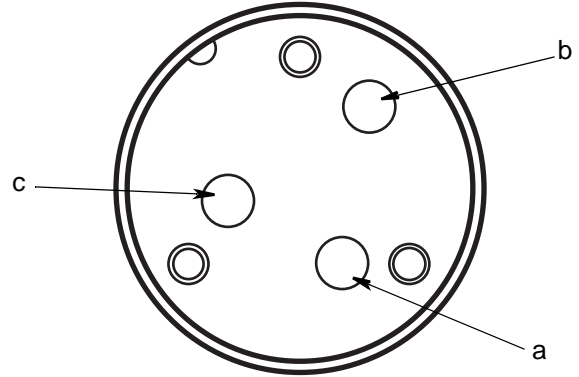

FIG. 27: Viewed from the back
2. Place green ground wire in position 1 (a) with green ground screw (FIG. 27). Tighten green screw.
3. Place white wire in position 2 (b) with silver screw (FIG. 27). Tighten silver screw.
4. Place black wire in position 3 (c) with brass screw (FIG. 27). Tighten brass screw.